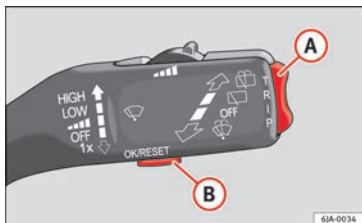
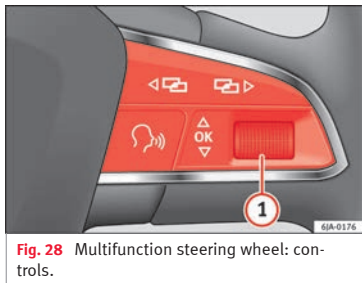

Fig. 27 Multifunction display: controls.
Fig. 28 Multifunction steering wheel: controls.
- briefly pressing the **(B)** button on the lever » **Fig. 27** » page 40, or by
- briefly pressing the right-hand thumbwheel on the multifunction steering wheel **OK** **(1)** » **Fig. 28**.
The button to change the functions **(A)** » Fig. 27 and the button to delete the memory **(B)** are located on the window wiper lever.
- Briefly press switch **(B)** » Fig. 27 on the lever.
- Briefly press the right-hand thumbwheel on the multifunction steering wheel **OK (1)** » Fig. 28.
- Briefly press the rocker switch **(A)** » Fig. 27 up or down. This displays the multifunction display functions in consecutive order on the screen.
- Turn the right-hand thumbwheel on the multifunction steering wheel **(1)** » Fig. 28. This displays the multifunction display functions in consecutive order on the screen.
- Keep switch **(B)** » Fig. 27 on the lever pressed.
- Keep the right-hand thumbwheel on the multifunction steering wheel **OK (1)** » Fig. 28 pressed. This way the following values of the selected memory are reset:
At temperatures below +4 °C (+39°F), the snowflake symbol is also displayed (frozen road surface warning symbol) and an audible warning is given. When rocker switch **(A)** » Fig. 27 on the lever is pressed or the right-hand thumbwheel **(1)** » Fig. 28 is turned, the last function will be displayed.
- Press button **A** » Fig. 27 on the lever to select **Speed warning**.
- Turn the right-hand thumbwheel on the multifunction steering wheel **1** » Fig. 28 and select **Speed warning**.